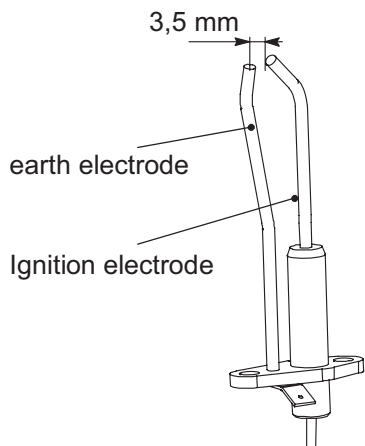
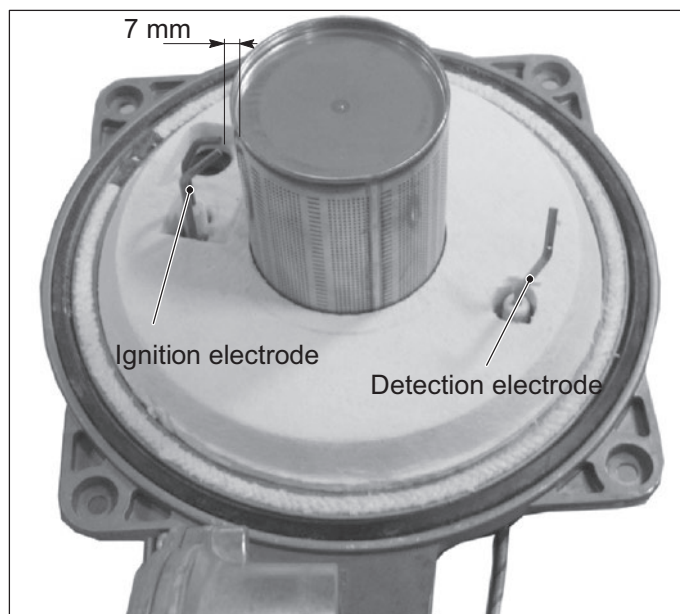

Figure 18.8
Figure 18.9
- 2 Check for the correct distance between the metallic edges of the ignition electrode (see Figure 18.8 - Figure 18.9).
The detection electrode in Figure 18.9 also functions as a sensor for the correct drainage of the condensate.